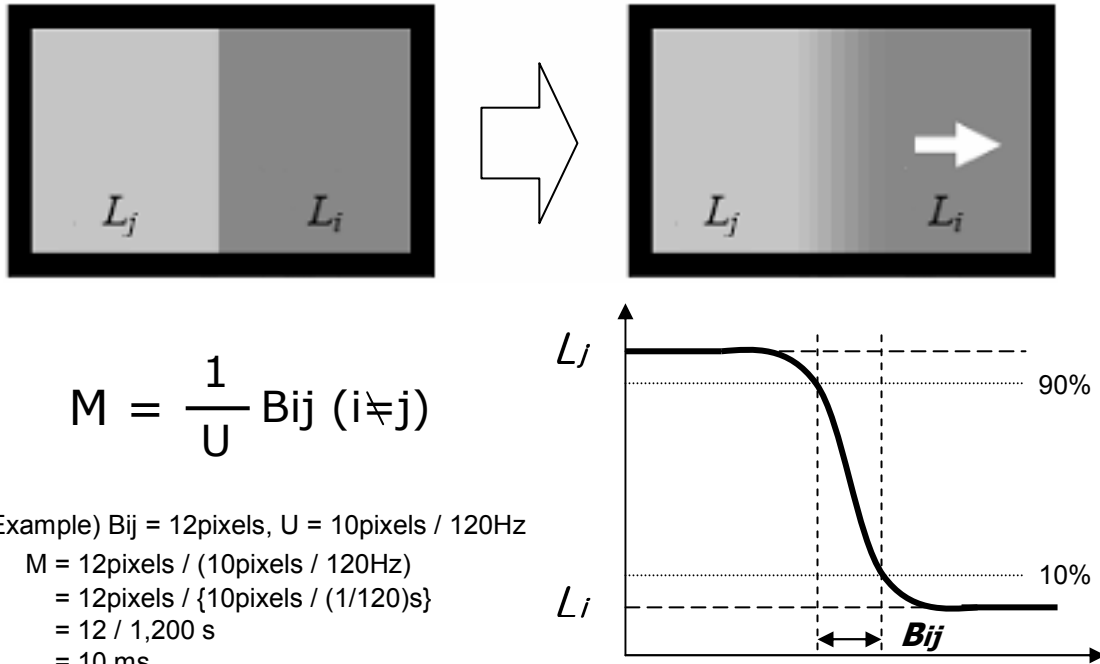

FIG. 4 MPRT
5. MPRT is defined as the 10% to 90% blur-edge width B_{ij} (pixels) and scroll speed U (pixels/frame) at the moving picture. For more information, see FIG 4